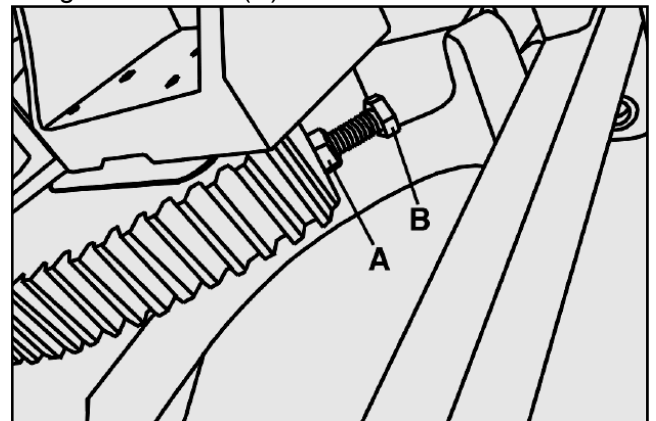

Fig. 25-1
4. If the blade is not at 90 degrees loosen lock nut (A) As **Fig.25-1** and turn stop ring (B) in or out. The stop ring (B) should stop against the front trunnion bracket when the blade is at 90 degrees to the table. Recheck and adjust further if necessary. Retighten lock nut (A).